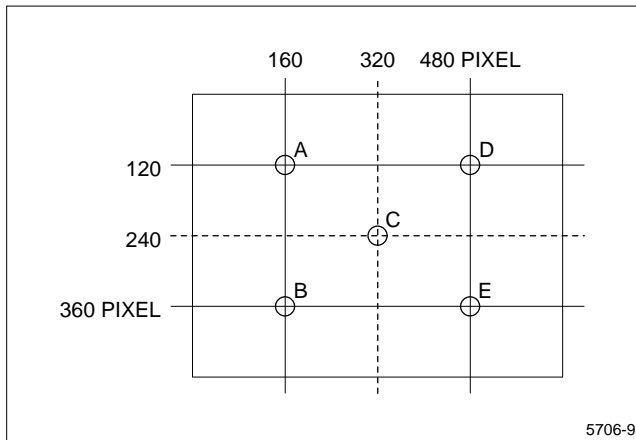

Figure 7. Definition of White Uniformity
- White Uniformity is defined as the following with five measurements (A-E) (Refer to Figure 7): $\frac{\text{Maximum Luminance(brightness)}}{\text{Minimum Luminance(brightness)}}$